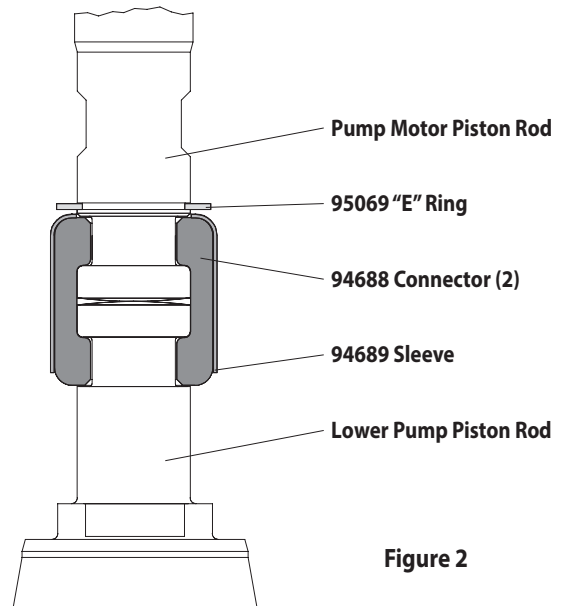

Figure 2
5. Using e-ring pliers, slide the (95069) "e" ring up far enough to allow the sleeve to move upward and release the two connectors (see figure 2). Lay the air motor aside.